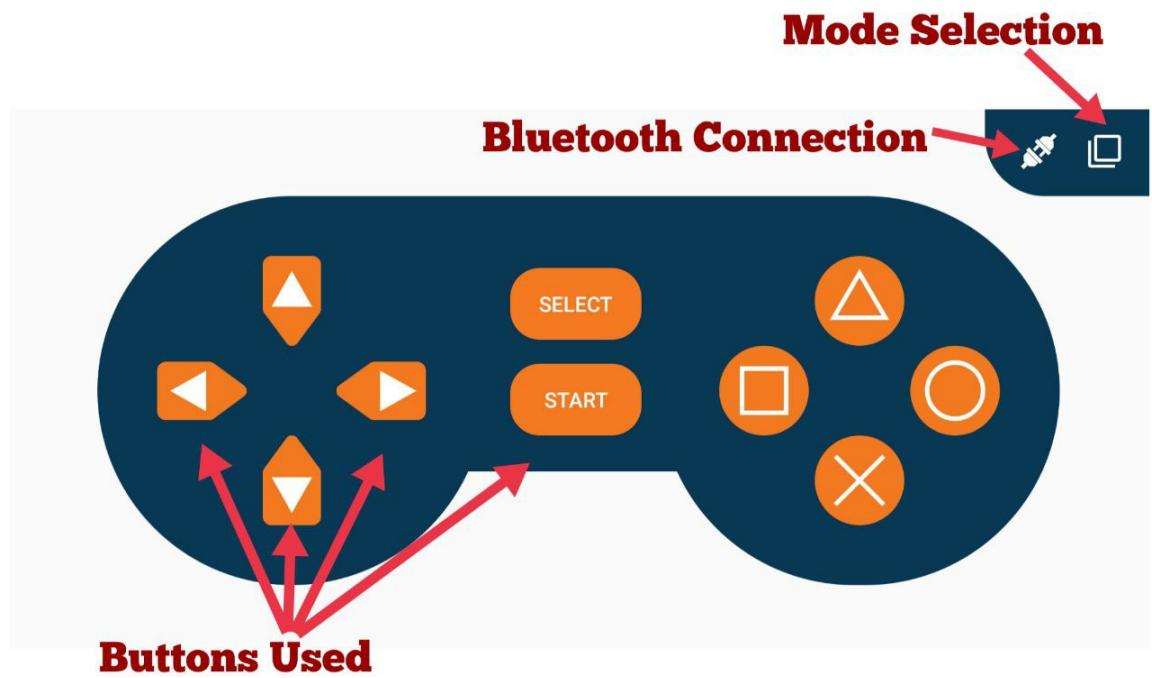

Figure 1.8.6.1: Dabble app Interface
1.8.6. Open the Dabble application. Select gamepad option in the app and then select Digital Mode and connect it app to ESP-32 by connecting it ESP-32 bluetooth as shown in Figure 1.8.6.1.